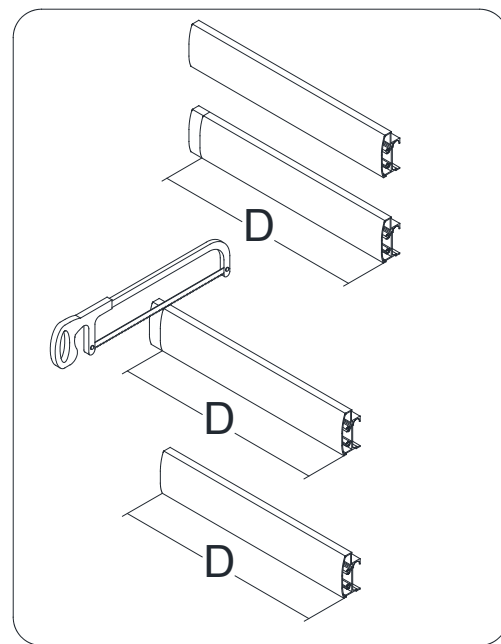

**Fig 1**
**1.** Measure the distance between the two finished walls at the top (at model height: 58" or 72"), middle and bottom. The wall profiles will adjust for out-of-plumb conditions, so **use the smallest measurement as the "finished opening"** dimension to determine the finished cut length in Step #2. **(Fig 1)**